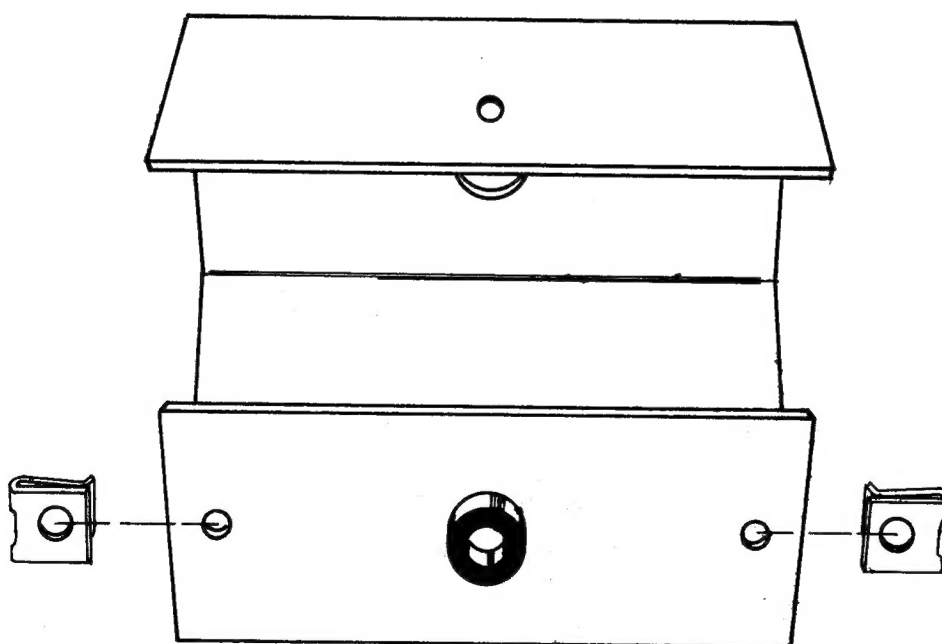

Figure 1
- (✓) Snap the two speed-nuts on the chassis rear apron, with the flat surface toward the rear. Refer to Figure 1 for details of installation.